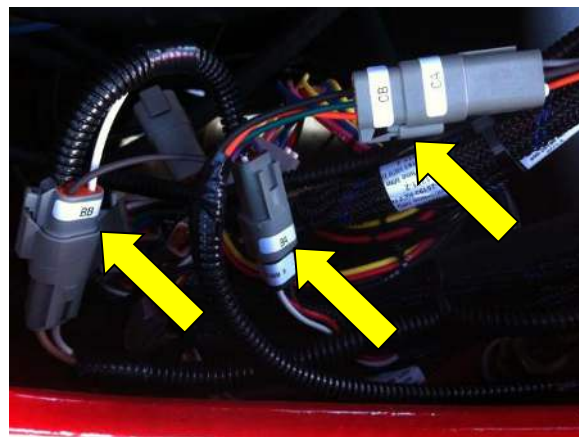

FIG. 14
9. Inside the turret, referring to FIG. 14, locate and disconnect CONN B of the truck harness